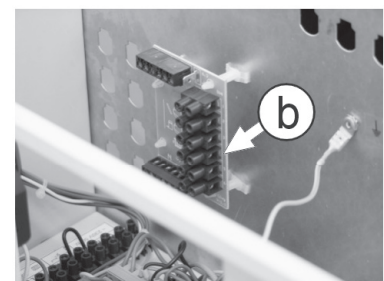

fig. 3
5. Place the auxiliary printed circuit board on the plastic mounting pins (Fig. 3/a).